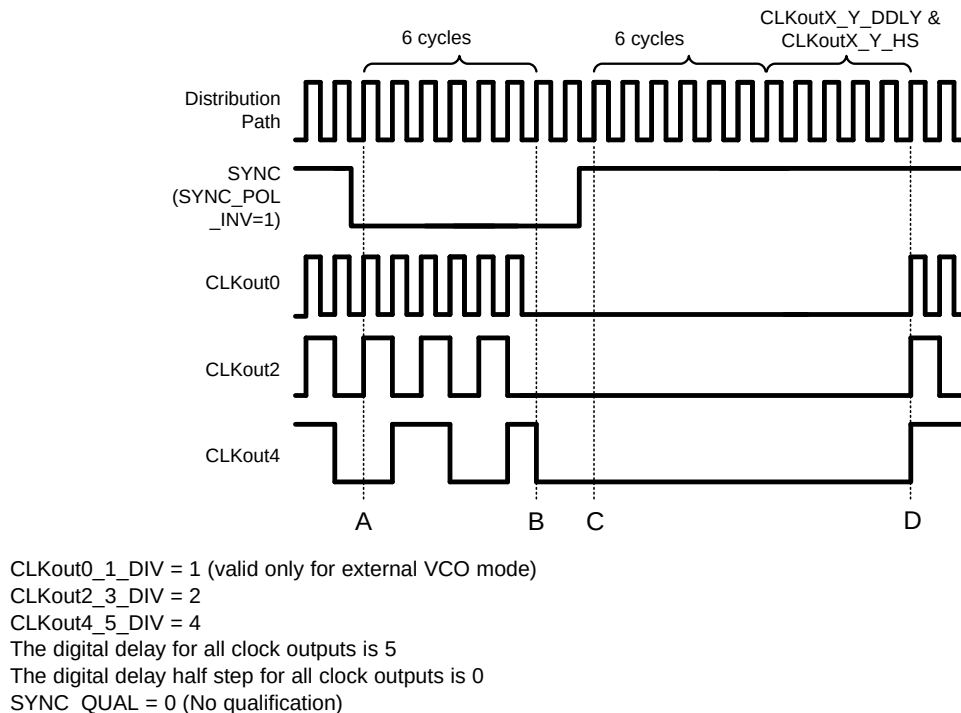
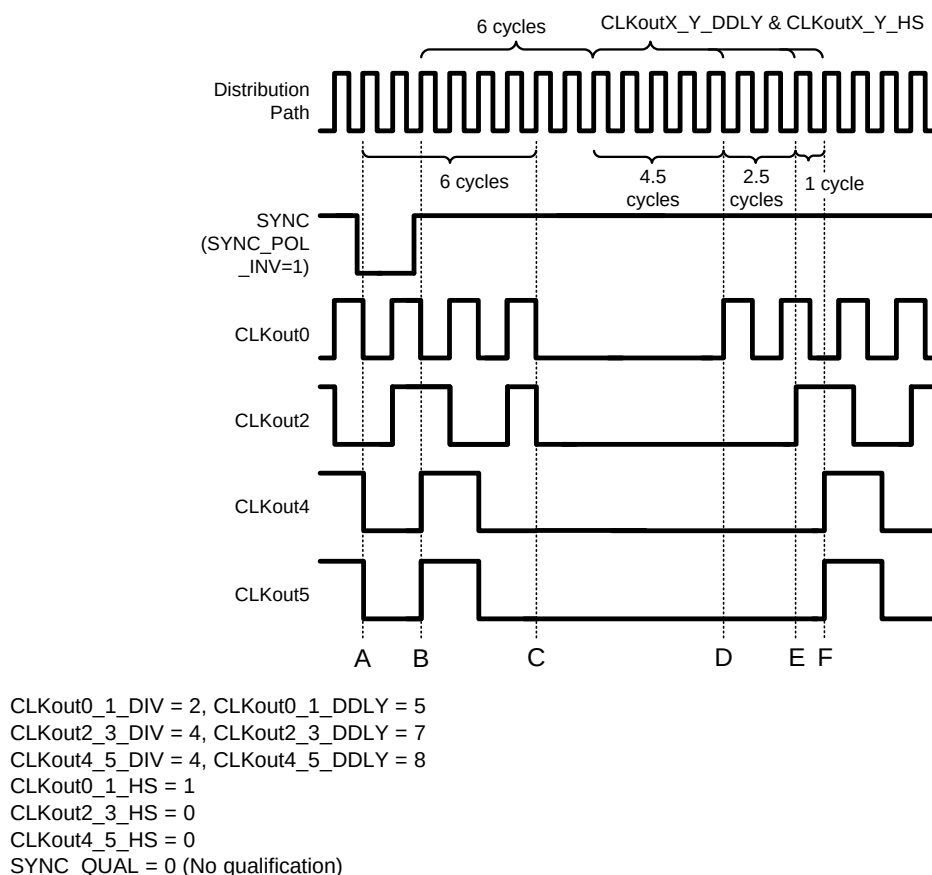

Figure 11. Clock Output Synchronization Using the SYNC Pin (Active Low)
Figure 12. Clock Output Synchronization using the SYNC Pin (Active Low)
Figure 12 illustrates clock outputs programmed with different digital delay values during a SYNC event.
Refer to Figure 11 during this discussion on the timing of SYNC. SYNC must be asserted for greater than one clock cycle of the clock distribution path to latch the SYNC event. After SYNC is asserted, the SYNC event is latched on the rising edge of the distribution path clock, at time A. After this event has been latched, the outputs will not reflect the low state for 6 cycles, at time B. Due to the asynchronous nature of SYNC with respect to the output clocks, it is possible that a glitch pulse could be created when the clock output goes low from the SYNC event. This is shown by CLKout4 in Figure 11 and CLKout2 in Figure 12. See Relative Dynamic Digital Delay for more information on synchronizing relative to an output clock to eliminate or minimize this glitch pulse.
Figure 12 illustrates the timing with different digital delays programmed.
- For example see CLKout4 in Figure 11 and CLKout2 in Figure 12.
Step 1: The device is programmed from register R0 to R30 with values that result in the device being locked and operating as desired, see the system requirements above. The phase of all the output clocks are aligned because all the digital delay and half step values were the same when the SYNC was generated by programming register R30. The timing of this is as shown in Figure 11.